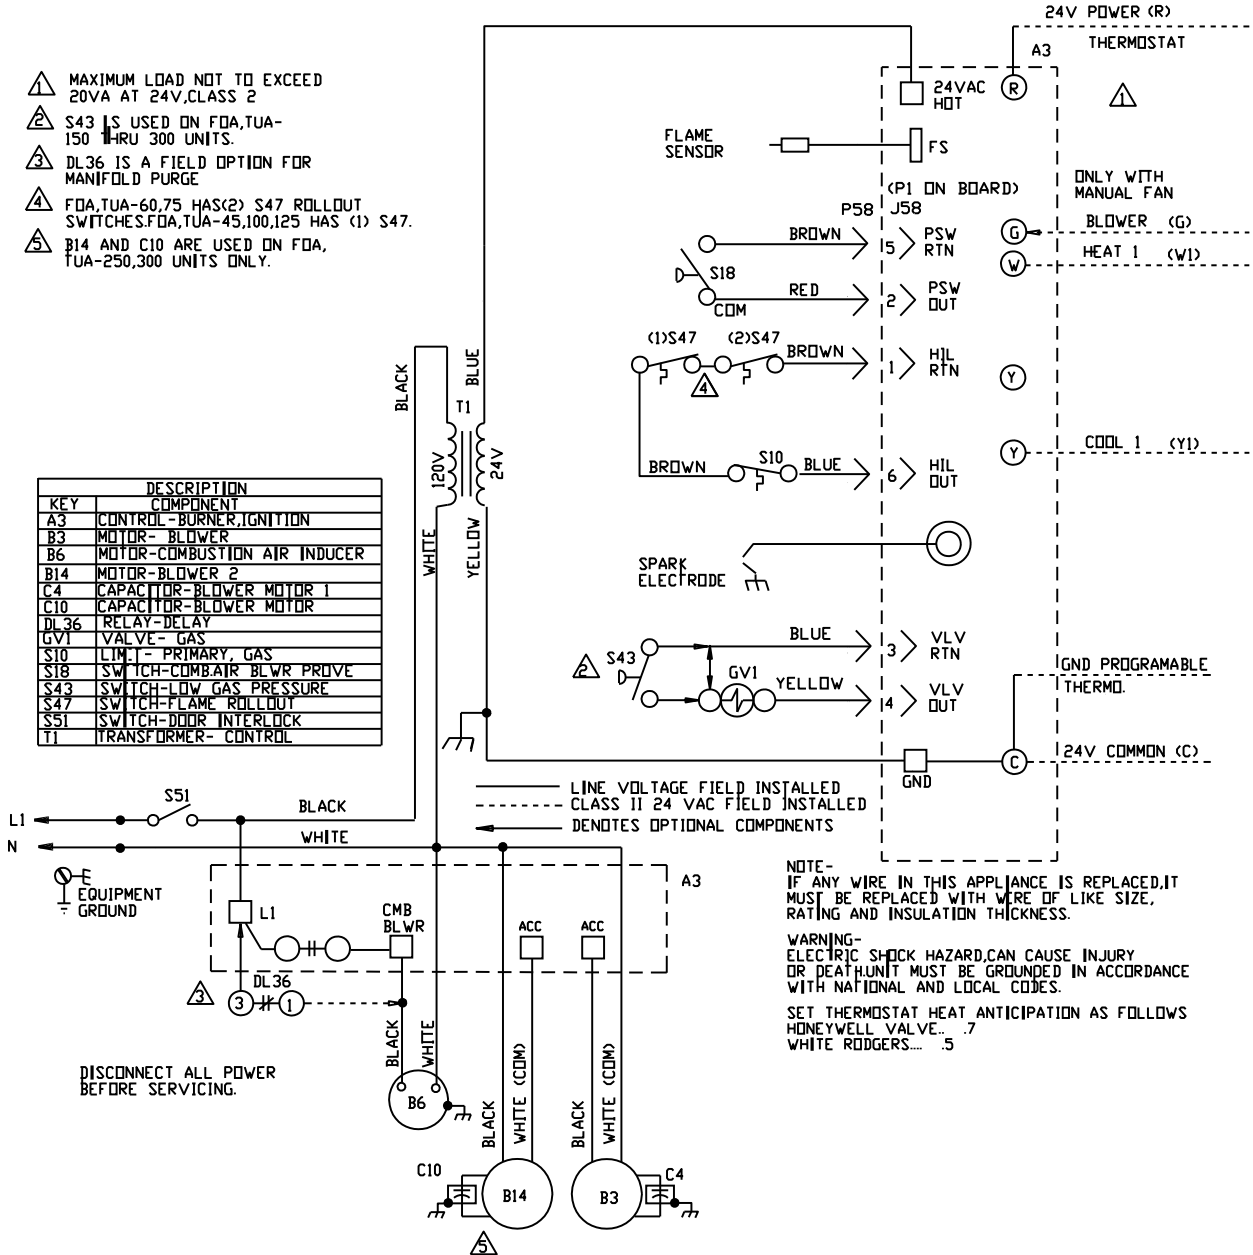

FIGURE 7
- 4- Refer to Figure 7 for kit termination, Figure 3 for upward slope with condensate trap, Figure 4 for downward slope with trap, and Figure 5 for downward slope with condensate drain through cap where permitted by local authorities.